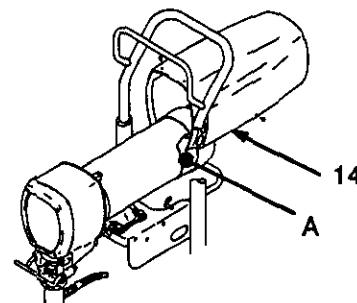

Fig. 35
1. Remove the motor cover (14) and both inspection covers (A). See Fig. 35.